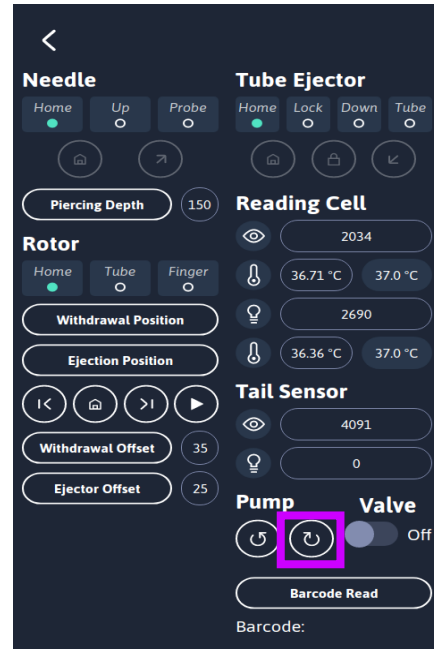

Figure 12
11. Press the Peristaltic Pump “Forward” Button as highlighted in Figure 12. Press this button 8 times waiting a second between each time the button is pressed. This will withdraw the bleach from the sample tube.